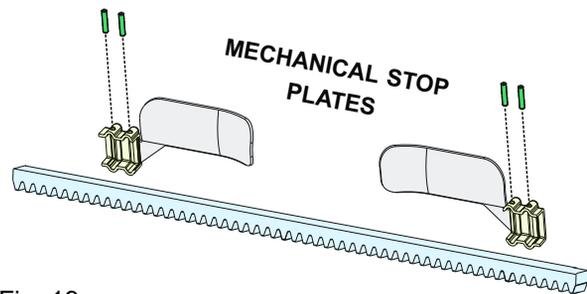
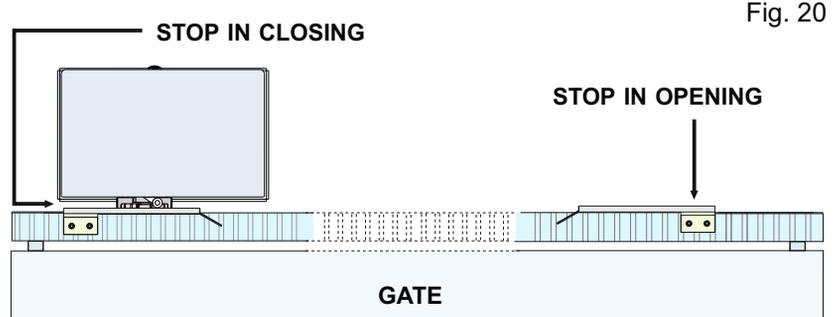

Fig. 19
Fig. 20
**! KEEP A GAP OF ABOUT 1 mm BETWEEN THE PINION TOOTH AND THE GEAR RACK TOOTH TO AVOID THAT THE GATE WEIGHTS DOWN THE PINION - FIG. 19**
- Place the plate - Fig. 19 - on the rack according to the desired gate stop position - Fig. 20; fix the plate on the rack using the supplied screws.